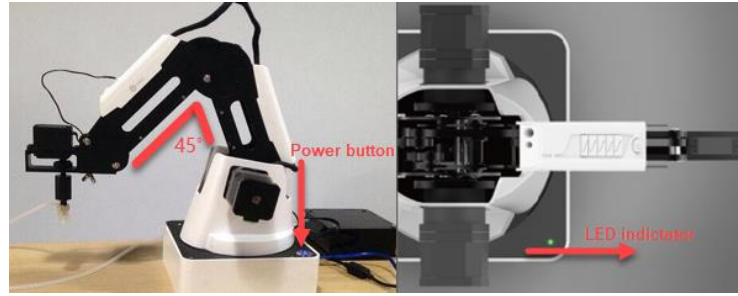

Figure 2.12 The gesture of Dobot Magician before power-on
- **Power on:** align the Dobot Magician into its neutral position with its Forearm and Rear Arm constructing a 45-degree angle, and press down the power button in the base, as shown in Figure 2.12. Once the robotic arm is powered on, the LED indicator turns yellow, and all the stepper motors lock. And then wait about seven seconds, a short beep sound will be heard, and the LED indicator turns from yellow to green. Now the Dobot Magician is ready to use.